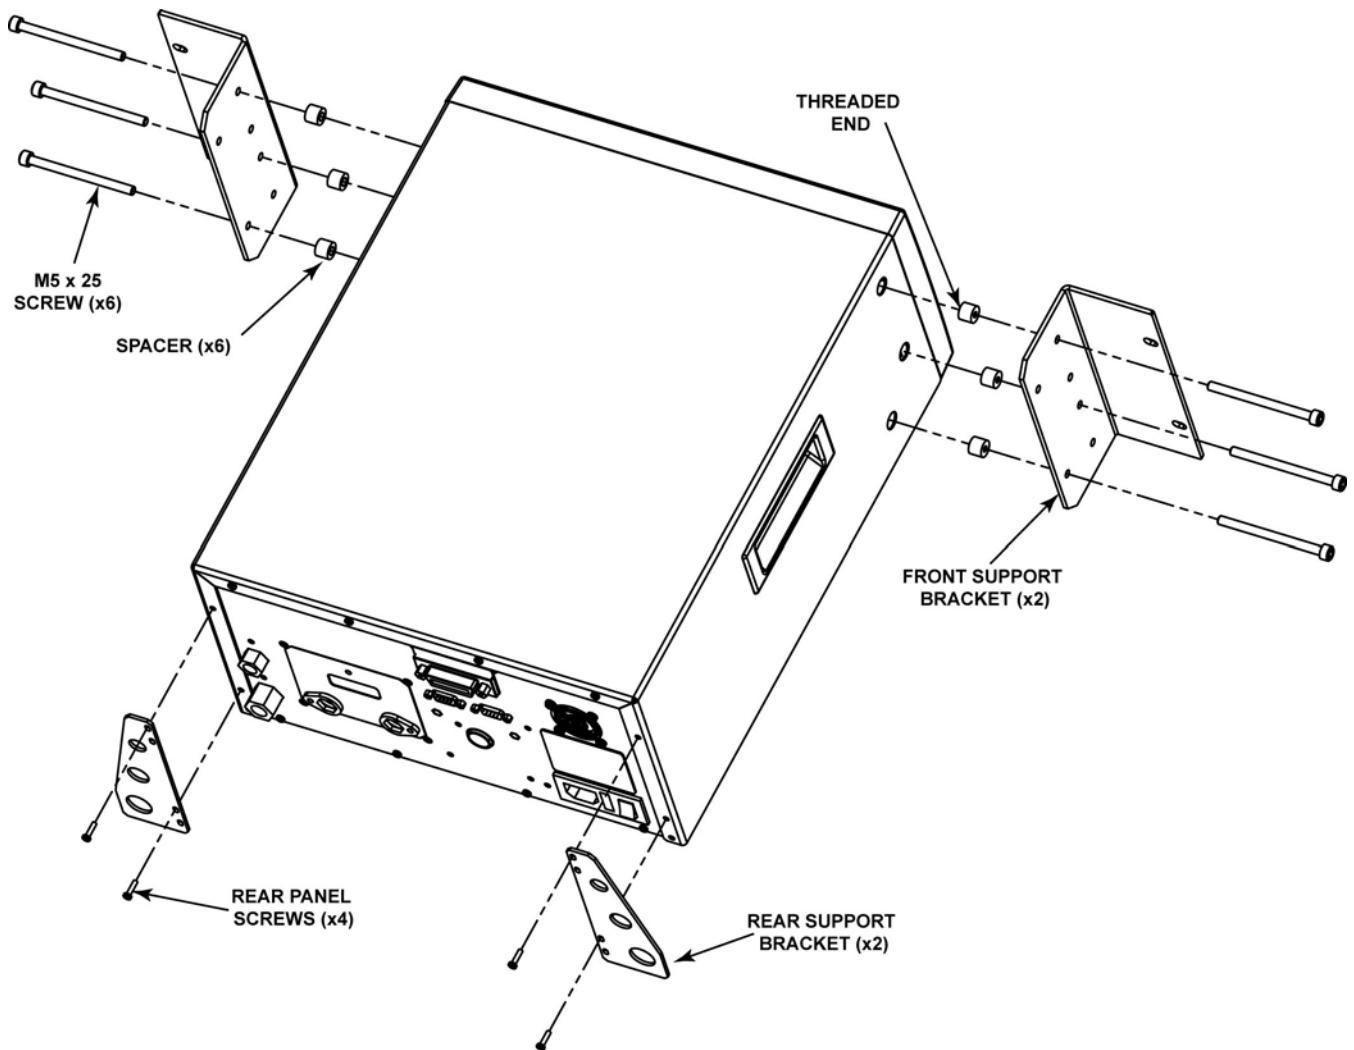

Figure 3: Installing the PPC4 Brackets
- 5 Attach the front support brackets:** Drop in spacers (x6) where the side plugs were. Place one front support bracket (x2) on each side of the PPC4. Position each bracket with the 3 holes on the side. Attach brackets to sides using the M5 x 25 screws into the spacers (See Figure 3).
- 6 Attach the rear support brackets:** Place one rear support bracket (x2) on the back of the PPC4. Position each bracket by lining up with the appropriate holes on the back of the PPC4. Attach brackets (x2) to the PPC4 back panel using four (4) of the PPC4 rear panel screws (See Figure 3).